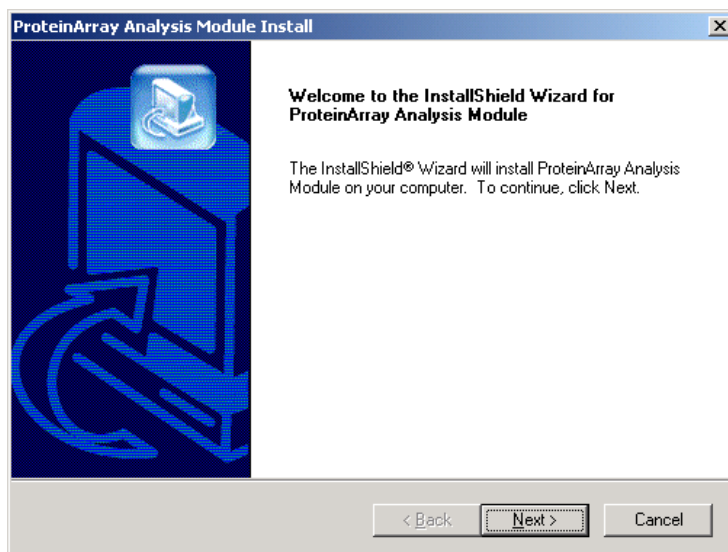

Figure C-1 The InstallShield Wizard screen for installing ProteinArray Analysis
The ProteinArray Analysis application is an add-on module for the ScanArray Express software. If you change PC's, or need to remove or reinstall the software for any reason, the software is provided on a CD with an installation "wizard" to guide you through the process of installing the software (see Figures C-1 and C-2).
3. If the installation does not start automatically, use Explorer or the **My Computer** icon to find the **CD-ROM** drive. Click on the **CD-ROM** drive and find the program **Setup.exe**. Double-click on the program name or icon. The InstallShield Wizard opens (see Figure C-1).